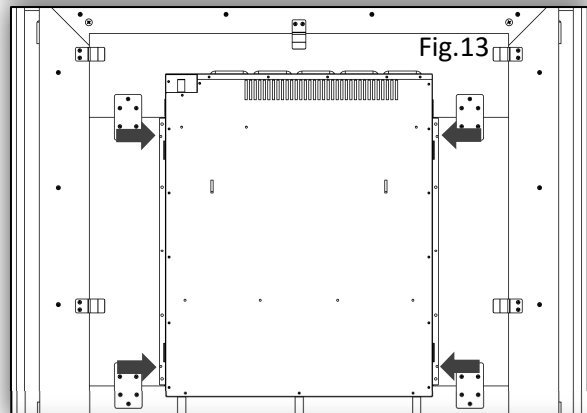

Fig.13
14. Once the Fire (J) is positioned in the correct finished position. Mark the centre of the screw points for the 4x fixing positions. Fig.13.
15. Lift the Fire (J) off the fire supports and using a 2mm drill bit, drill **6mm deep** pilot holes at the pre-marked points.
16. The Fire (J) can now be lifted back in to position and centralised. Working from the top, screw the Fire (J) securely in place with the 4x 16mm Dome head Screws (F) provided. Fig. 13 & 14.